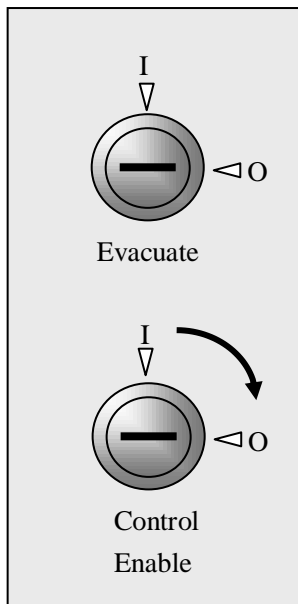

Fig. 3.6.1a
- ✧ As in Fig.3.6.1a, when “Control Enable” lock points to “O”, the panel is at level 1, and it can be silenced.